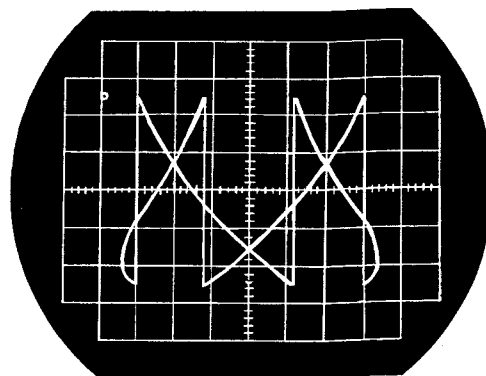

Fig. 10-5 Lissajous' Figure
36. Adjust VR3 so that a stationary Lissajous' figure (see Fig.10-5) appears on the oscilloscope screen.